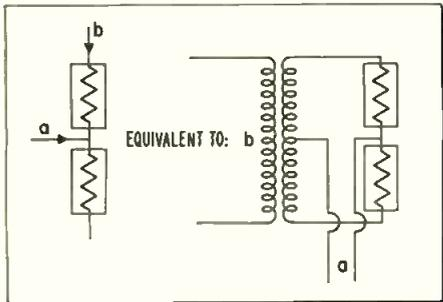
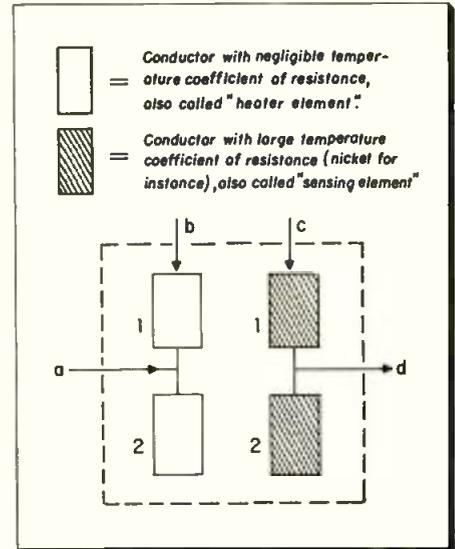

Fig. 1: Notation of equivalent circuit
Fig. 2: Basic transducer and conductor symbol
In all the figures, the abbreviated notation as shown on the left side of Fig. 1 will be used. In Fig. 2 a and b denote electrical signals. Consider a basic transducer as represented within the dashed lines of Fig. 2. Heater element (1) is in thermal (but no electrical) contact with sensing element (1), while a similar situation prevails for element (2). No heat may be transferred from pair (1) to (2) or vice versa. In principle, the thermal contact could be achieved through conduction, convection or radiation. For practical purposes, convection should be ruled out, however, because of stability considerations.
Suppose that a and b are two in phase signals. Fig. 1 and 2 suggest that the difference of heat dissipated between heater elements (1) and (2) is proportional to
i.e., to the product of incoming signals a and b. If there is a carrier phase difference  $\phi$  between a and b, said heat differential would be  $4ab \cos \phi$ ; in particular it would be reduced to zero if  $\phi$  were equal to  $90^\circ$ . As to the sensing elements, shown as the shaded areas on the right side of Fig. 2, the differential of their resistance is a direct (though not forcibly linear) function of the heat differential produced in the transducer. The output (d) is proportional to the reference signal (c) (provided the latter is moderate enough)